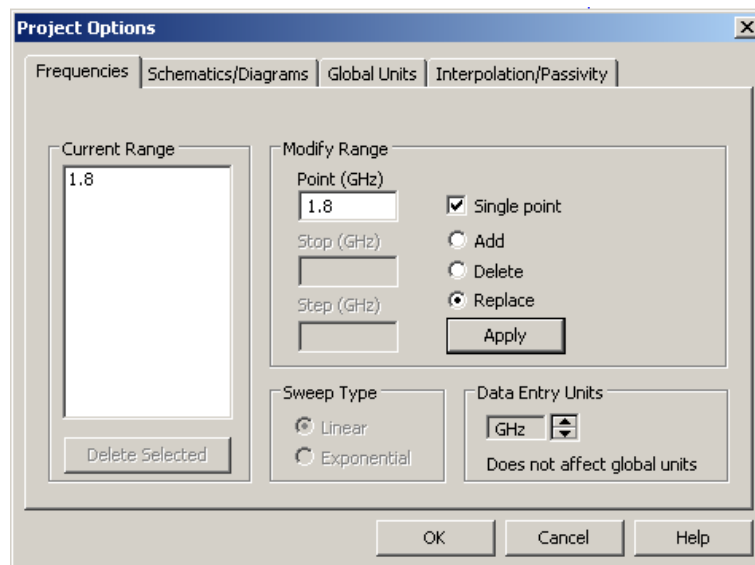

Figure 4.3: Chart 2 : Project Frequencies
- Ensure your 'frequencies' tab is as shown in figure 4.3.